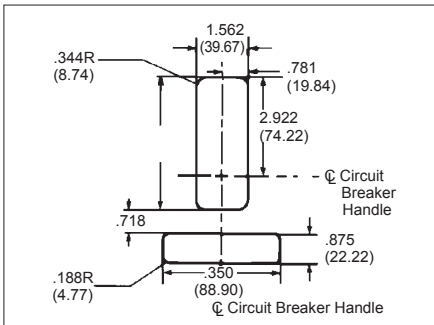

Figure 2-4 MCP Escutcheon Dimensions
a. For individual surface mounting, drill mounting panel using the drilling plan shown in Fig. 2-3. For deadfront cover applications, cut out cover to correct escutcheon dimensions. (See Fig. 2-4.)